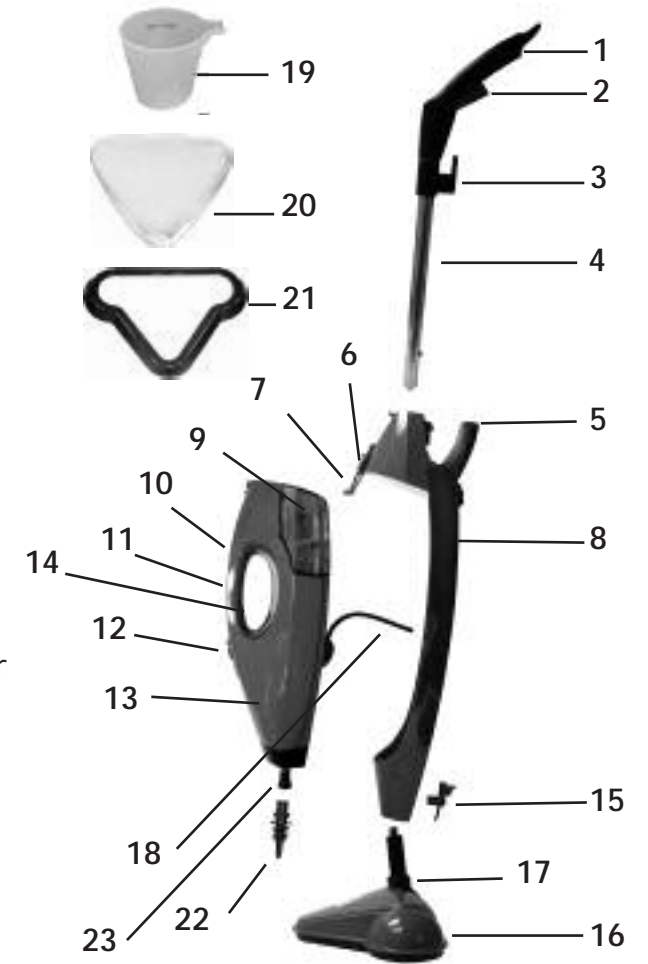

Fig.1
3. Use any suitable metal pin (i.e. long sewing needle) to remove scale deposits from the small hole of the steam outlet, as illustrated in Fig 1. By swirling and pushing the pin up and down you will clean the steam outlet. Always ensure that all scale debris has been removed from the steam outlet before reassembling. Continue swirling "pin" until no further debris is evident.